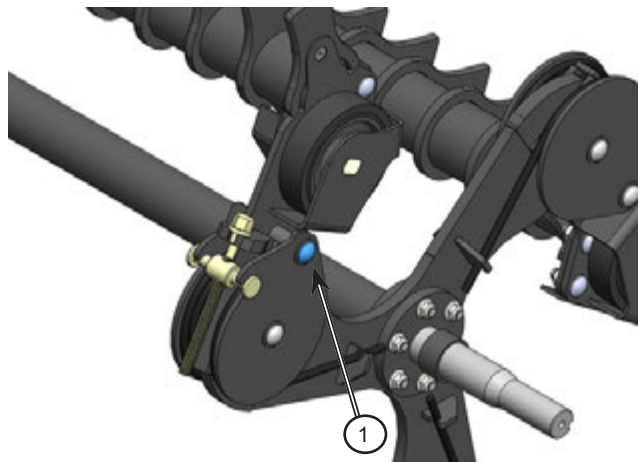

Figure 6.36: Tension until locking bolt is loose
5. Tighten the tension bolts until the locking cross bolts (1) become loose; see *Figure 6.36*.